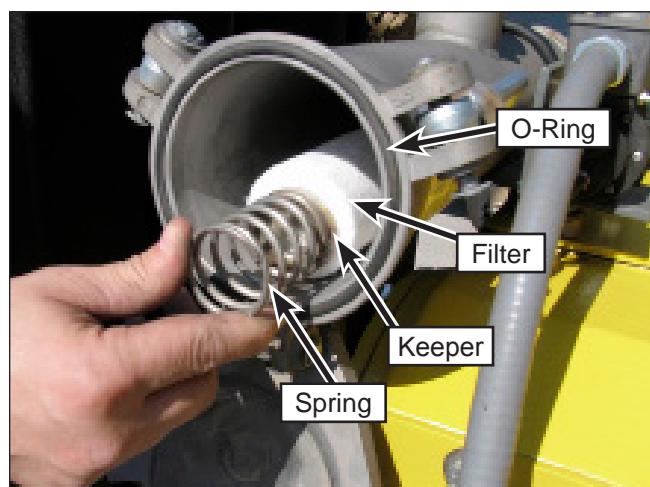

Figure 41: Cartridge Removal.
2. Slowly open the cover and capture the spring (Figure 41) and spring keeper.